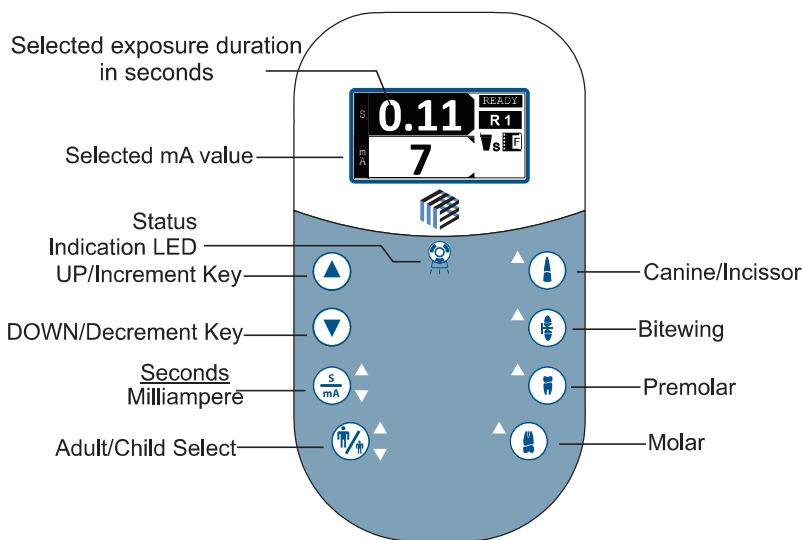

Figure 141
- Using the Control Console press the keys **Molar** followed by **bitewing, canine, premolar, molar, canine, bitewing and S/mA** as shown in Figure 141 .